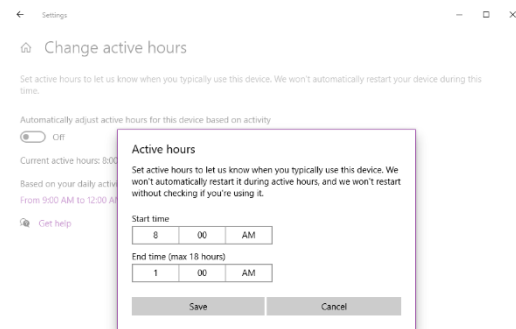

FIGURE 96: ACTIVE HOURS (KUCERA, 2020)
12.2.2. Scroll down to and click on Change Active Hours. This will tell the system when you typically use the computer so that it does not start installing an update (and then restarting) during your active hours. Click change, then edit your typical Start time and End time for using the computer (See Fig. 96).